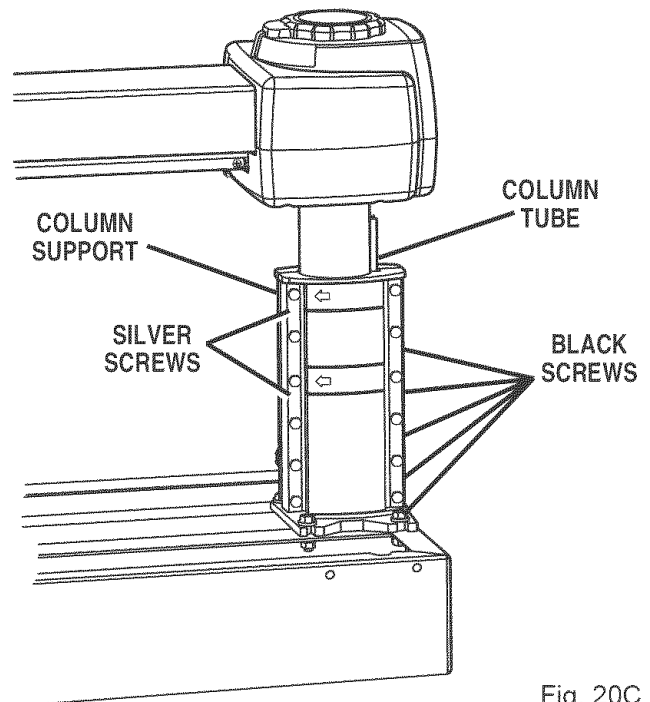

Fig. 20C
- **Elevation Adjustment:** If the elevation check did not show any play between the column tube and the support, go to the rotation adjustment. Otherwise, raise and lower the arm with the elevating handwheel. Tighten the black screws on the right side of the column support by 1/16th to 1/8th of a turn. Tighten the two silver screws on the left side slightly more. You will need two 1/2 in. wrenches or sockets. Turn the elevating handwheel again. If the column tube binds, loosen the silver and black screws and turn the handwheel again. See Figure 20C.